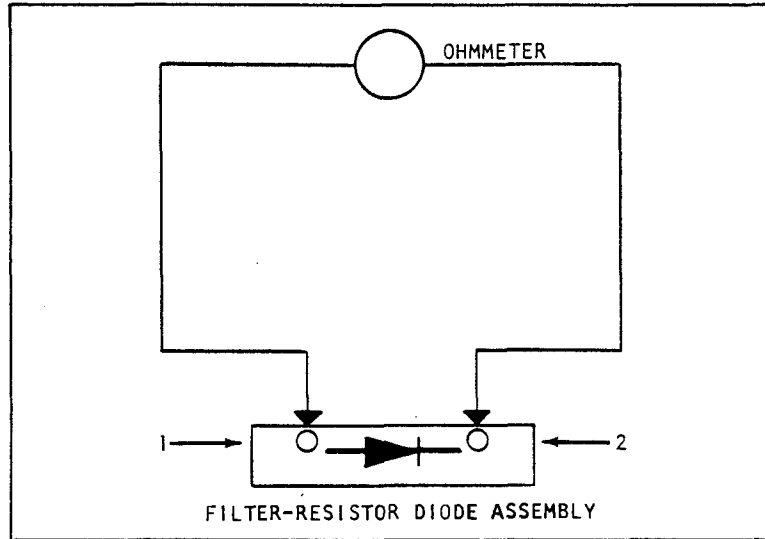

Figure 7.
a) Filter. These are resistor - diode assembly (connected across all contactor coils) and should be checked as follows: Disconnect the leads to the filter block, Figure 7. If resistance should be approximately 100 ohms in the conducting direction and infinity in the opposite direction.